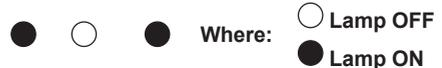

Fig. 8.4
- Press the reset button 6 repeatedly (4 times) until the lamps 9 give the indication as in Fig. 8.4 (gas type mode).